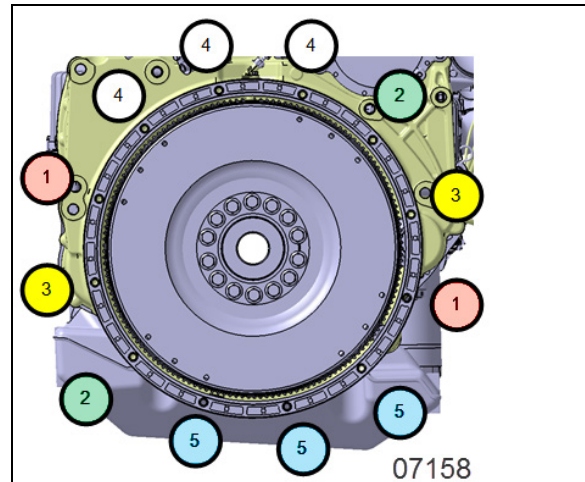

FIGURE 13: CRISS CROSS PATTERN
- Tighten them gradually in a criss-cross sequence as shown in Figure 13. Apply the following torque value: